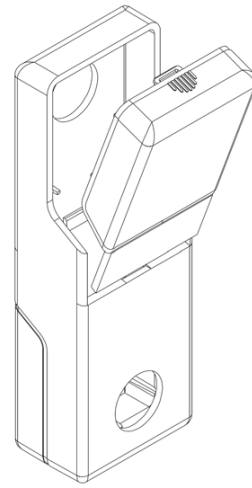

Figure 1
2. Remove the first adaptor cover by slightly pressing down on the top seam, in the middle, while pulling apart (See Figure 1).